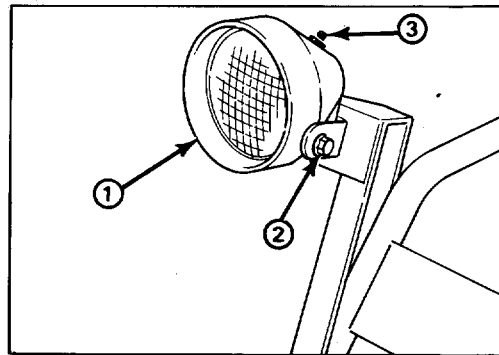

Figure 20
1. Rotate headlight to desired position. If light is difficult to move, loosen locknut (Fig. 20).
3. To turn on headlight, push button switch on top of light (Fig. 20).